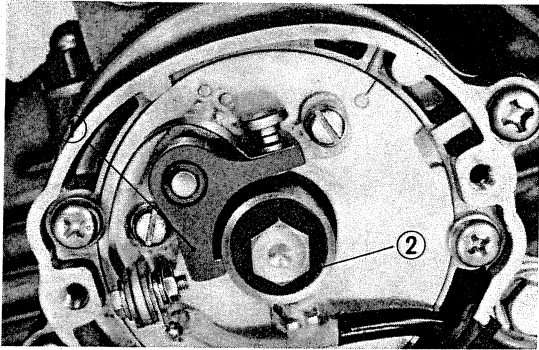

Fig. 4 ① Breaker arm slipper ② Cam
- 1) Remove the point and dynamo covers. Turn the crankshaft with the pin spanner provided as a service tool until the breaker arm slipper is on the highest point of cam lobe. (Fig. 4)